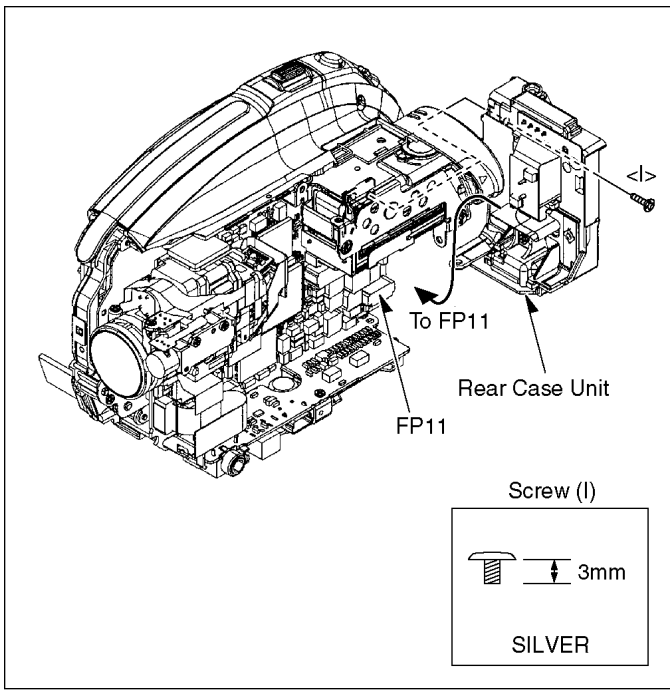

Fig. D5
| | | Fig. D5 | 1-Connector FP11 1-Screw (I) Rear Case Unit |